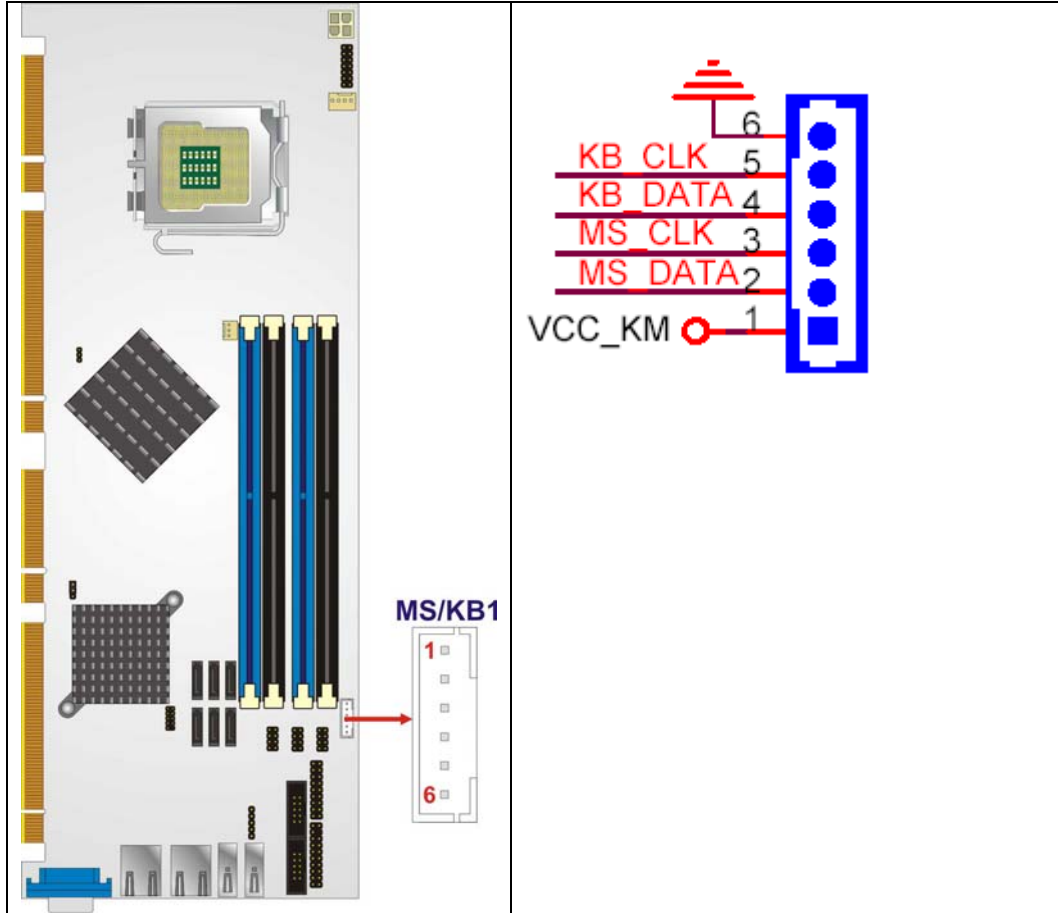

Figure 4-9: Keyboard/Mouse Connector Location
- CN Location:** See Figure 4-9